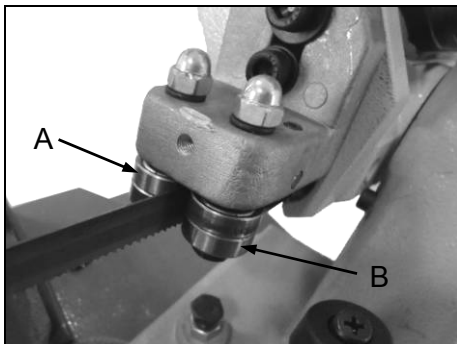

Fig. 15
2. The saw uses fixed ball bearings and can be adjusted ball bearing by eccentric bearing shaft (B) in Fig.15, 16 (A) is to keep the tolerance with the blade. For keeping proper cutting, the best way is to replace them every three or six months depending on the frequency of service.
3. Poor cuts can be made because the nuts (A) in Fig.15, 16 are getting loose. Then tighten it properly.